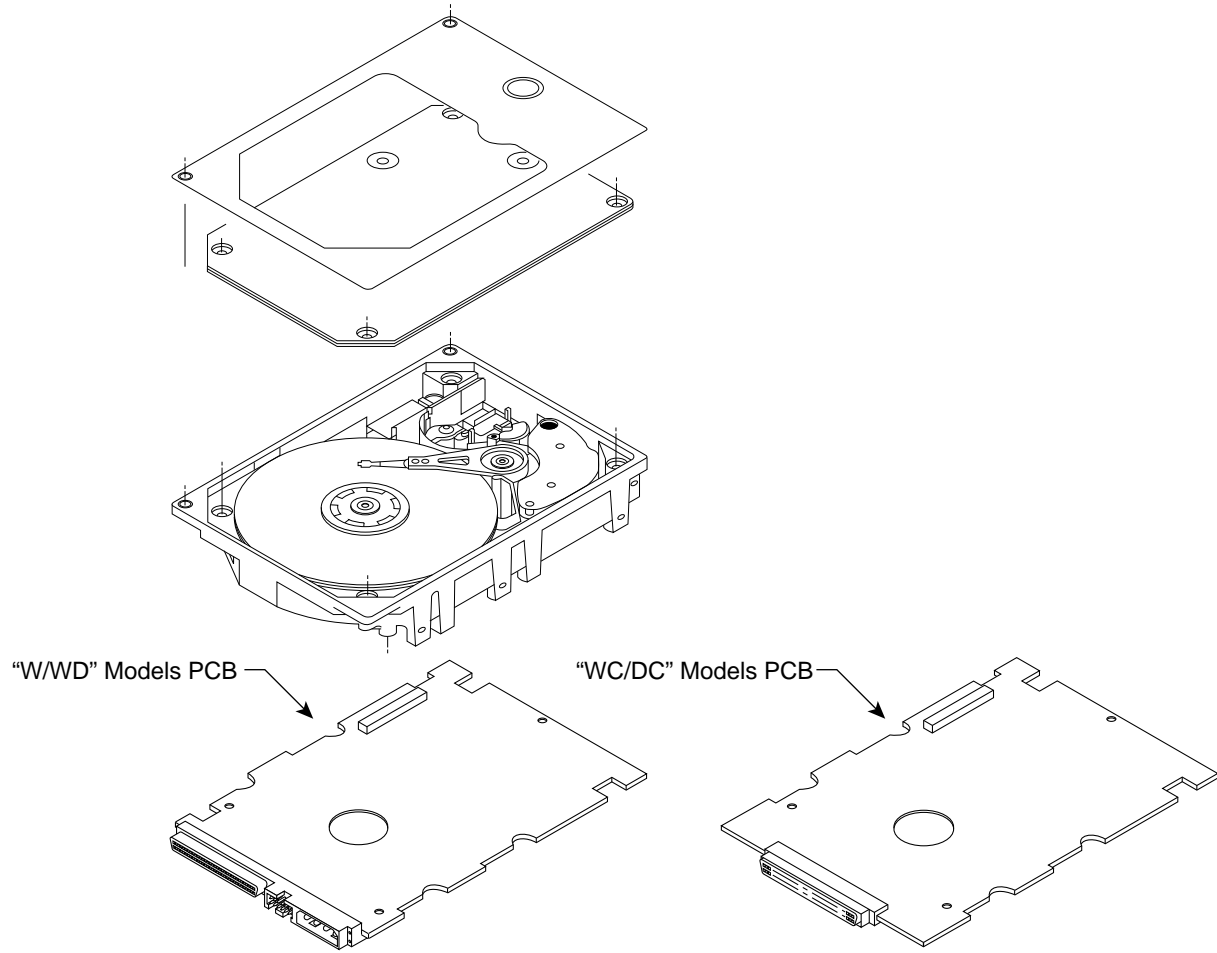

Figure 3.0-1. Hawk 2LP family (Wide) drive
* 68 pin/4 pin SCSI I/O and direct current power connector shown, as used on “W” and “WD” models. “WC” and “DC” models have a single 80 pin connector, that contains both SCSI I/O and direct current power (see Figure 3.0-1).
Refer to Figure 3.0-1 an exploded view of the drive. NEVER disassemble the Head/Disc Assembly (HDA). This exploded view is for information only. Do not attempt to service items in the sealed environmental enclosure (heads, media, actuator, etc.) as this requires special facilities. The drive contains no parts replaceable by the user. The drive warranty is voided if the HDA is opened.
- Front panel (green LED) - See Figure 3.0-1
- Front Panel Kit (with green LED) - See Figure 3.0-1